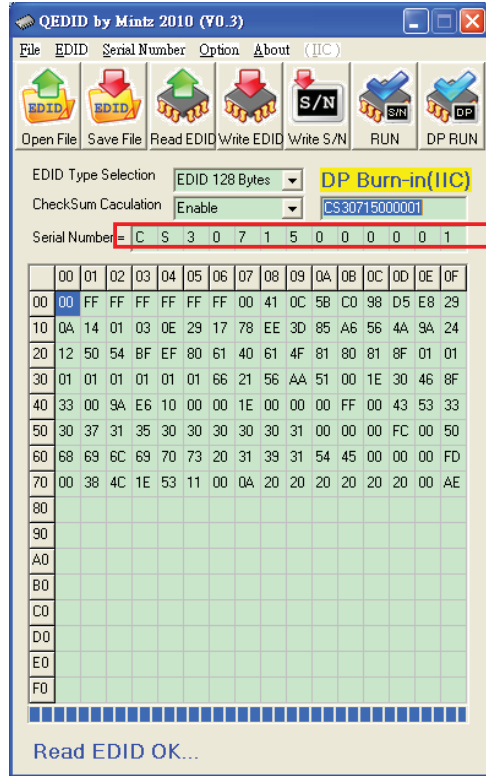

Fig.10
- Press "Read EDID" to read EDID and serial number shown as Fig.10 . and check Serial number is the same as we set.